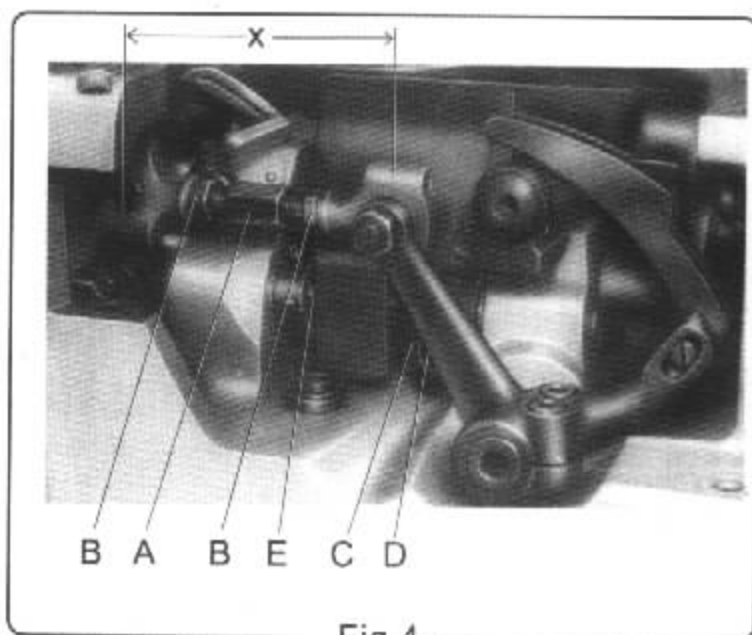
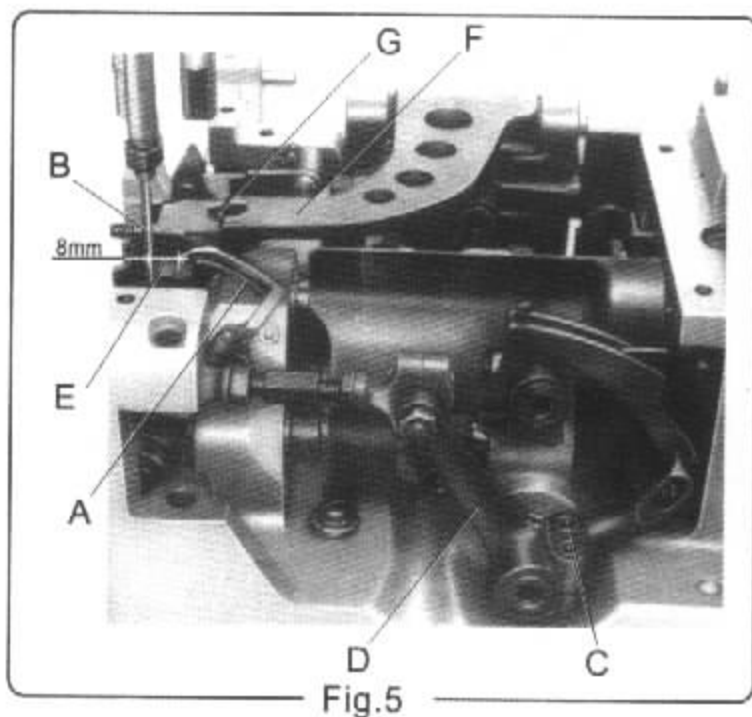
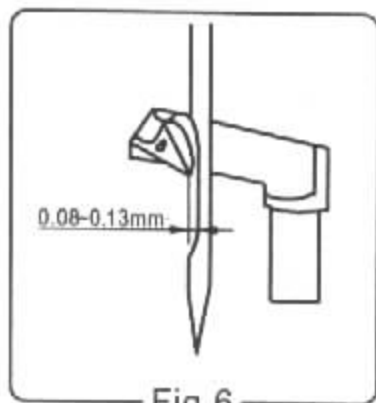
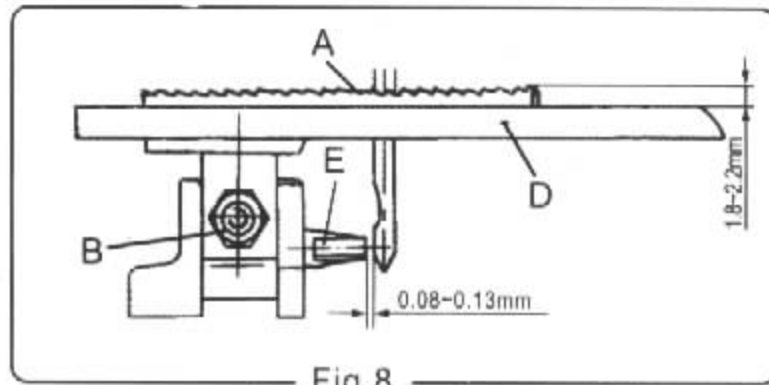

Fig.4
Fig.5
Fig. 6
Fig.8
(1) Loooper
a. First set the looper connecting rod A (Fig. 4), so the distance X (Fig. 4) between the centre lines of the two ball joints is 69.8mm. For adjustment, loosen the two nuts B and turn connecting rod A forward or backward as required to obtain specified dimension. Retighten nuts B.
b. Rotate the machine pulley clockwise by hand, so that the needle bar moves to the lowest point, at the same time the looper moves back to its farthest position to the right. The distance from the point of the looper A (Fig. 5) to the centreline of the needle is 8mm. For adjustment, loosen two screws C in the looper drive lever, rotate looper drive lever D left or right as required to obtain specified dimension and retighten screws C.
c. Rotate the machine pulley so that the looper A (Fig. 5) moves from right to left. The looper point should pass close as possible as the back of the needle without contacting, about 0.08 ~ 0.13mm (Fig. 6) clearance. For adjustment, loosen screw D (Fig. 4) in the looper eccentric fork C and turn rocker shaft E on the looper rocker with the looper forward or backward as required. Retighten screw D.
(2) Needle Bar
The needle guard E (Fig. 8) will protect the needle and prevent it from bending or breaking when the needle goes down. The clearance between the needle and the needle guard is 0.08 ~ 0.13mm (Fig. 8). For adjustment, rotating pulley in the direction of operating, so that the needle guard moves against the needle. Loosen set screw C on feed dog holder (Fig. 5), move the needle guard accordingly. Retighten screw C.
The height of the feed dog A (Fig. 8) is determined by the quality and the thickness of the sewing materials. For closing thin material such as bags made of cloth and plastic, teeth surface should project 1.8mm above the throat plate D top surface, and for sacks about 2.2mm above the throat plate. For setting, move the feed dog to the highest position, loosen nut B and adjust feed dog by raising or lowering it. Retighten screws B.